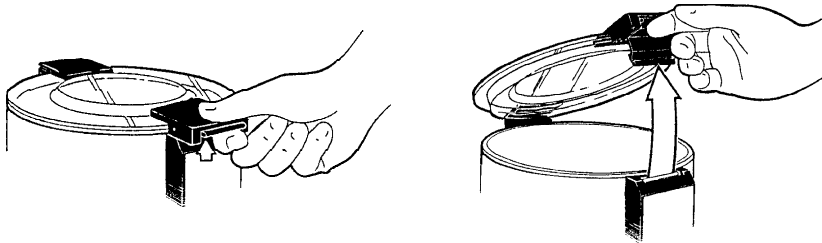

Figure 1. Squeeze the latch to open the CytoFuge 2 cover.
1. The cover interlock is released at the end of the operating cycle or it can be released by pushing the “stop/open” button. The cover can then be opened by squeezing the black latch pieces together and lifting (see Figure 1).